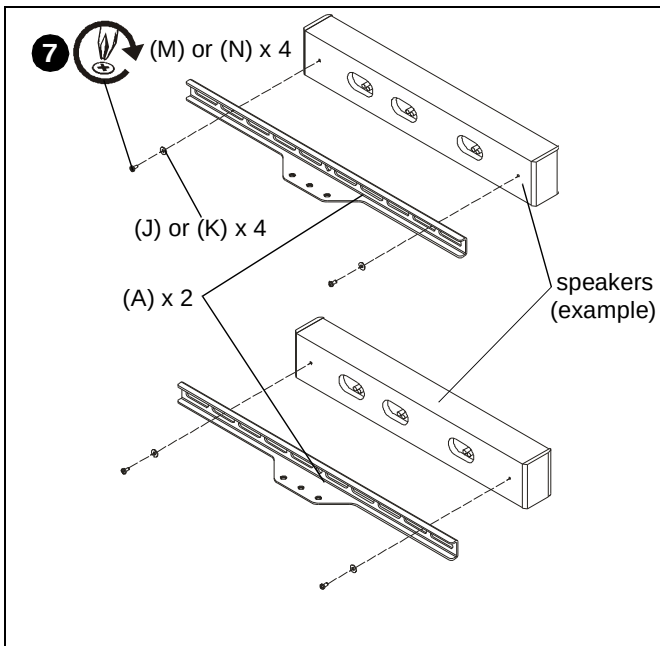

Figure 11
7. Use four 1/4-20 x 1/2" Phillips pan machine screws (M) with 1/4" washers (J) or four #10-24 x 1/2" Phillips pan machine screws (N) with four #10 washers (K) to secure two speaker brackets (A) to speakers (not included). (See Figure 11)